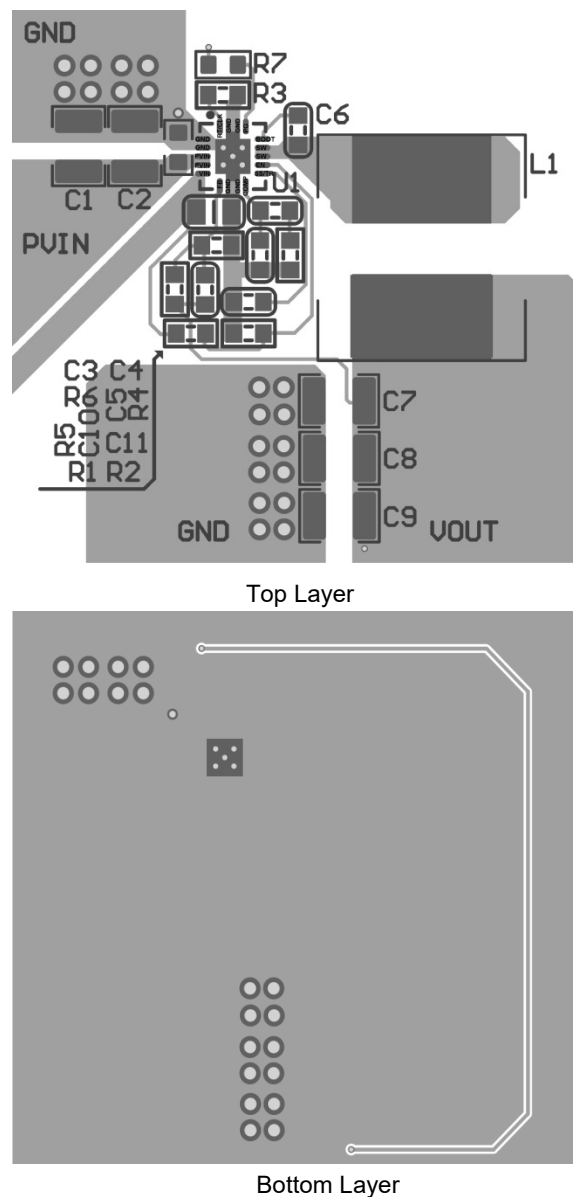

Figure 15. PCB Layout
- PCB layout is critical for stable and high-performance converter operation. The recommended layout is shown in Figure 15.